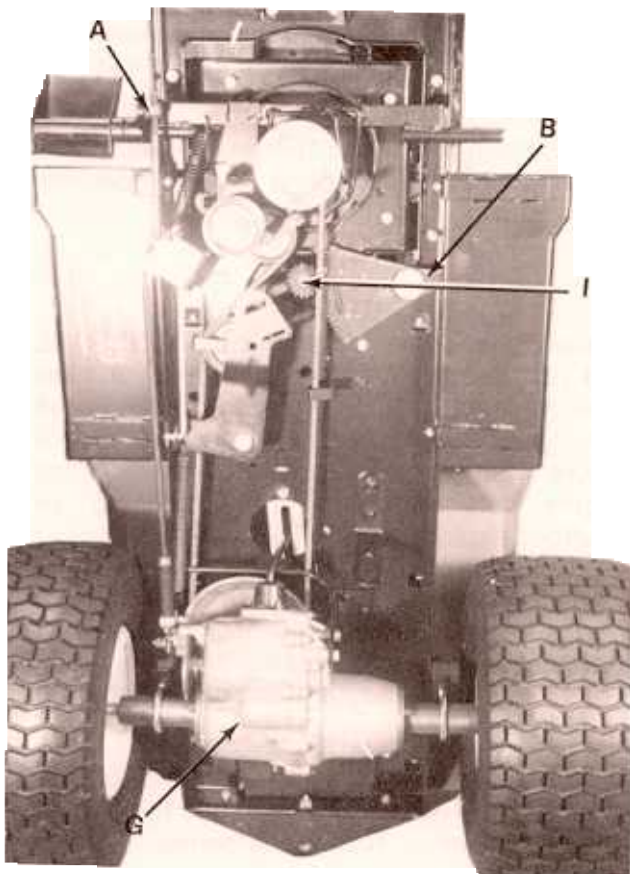

FIGURE 17.
- (A) Oil the pedal pivot point
- (B) Oil all connecting rod points
- (C) Oil all pivot points (rider & mower)
- (D) Oil the mower control lever
- (E) Oil the throttle control cable
- (F) Oil the mower deck wheels
- (G) Transmission (See maintenance section)
- (H) Engine crankcase (See maintenance section)
- (I) Grease the steering gear (Caution: Keep grease off belts) See figure 17.